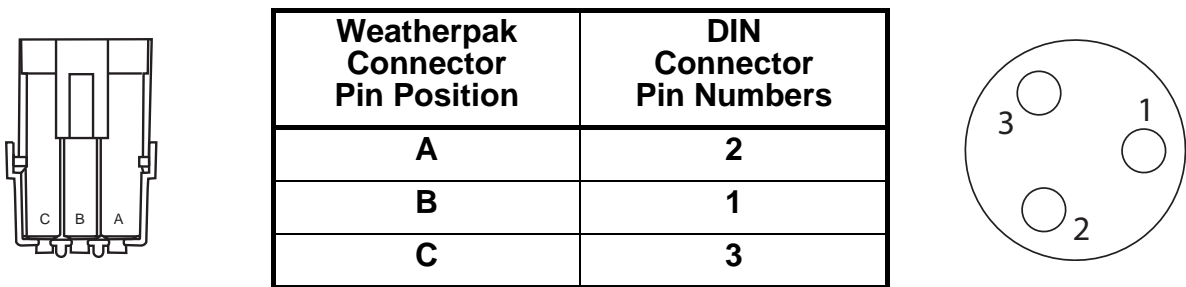

Figure 31
If the readings were zero or out of range, an additional test must be made to the linear harness to determine if the linear harness has a short. The linear harness has three (3) wires that correspond with the connector pins on each end of the harness. The following table (**Figure 31**) describes which Weatherpak connector pin indicated by the letters A, B and C corresponds with the pins of the DIN connector indicated by the numbers 1, 2 and 3. Use a multimeter to check for continuity between the pins for each wire in harness.